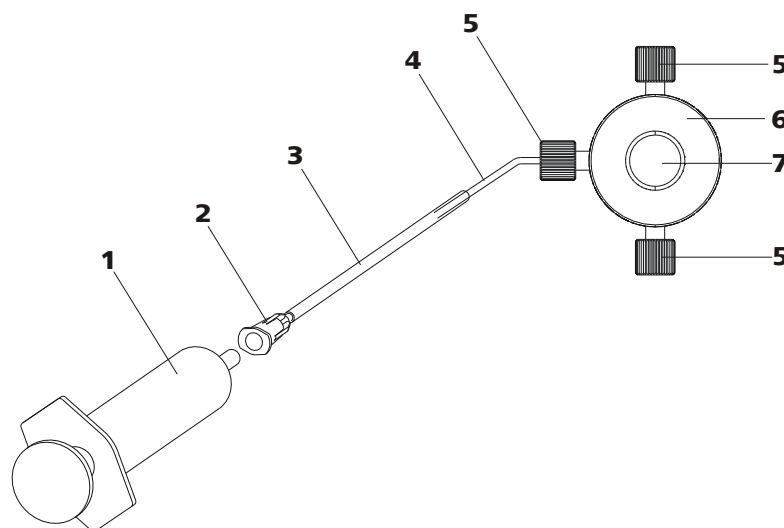

Figure 20 Deaerating the high pressure pump
Deaerate the high pressure pump as follows (see Figure 20, page 41):
- Insert syringe (20-1) in the Luer connector (20-2) of the purging needle (see Figure 20, page 41).